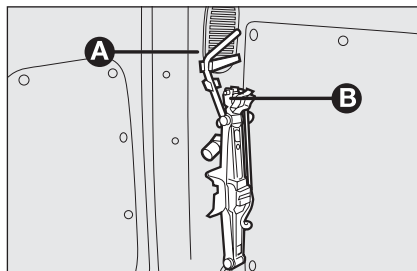
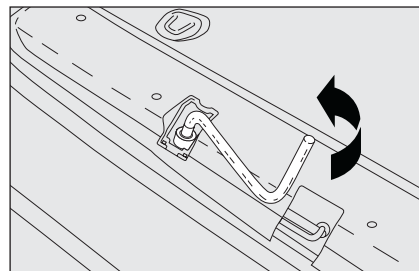

fig. 3
fig. 4
- ☐ Take the operating handle **A**-fig. 3 out of the relevant retainers;
- ☐ Loosen the locking device **B**-fig. 3;
- ☐ Use handle **B**-fig. 3 to loosen the spare wheel support locking bolt **fig. 4**;